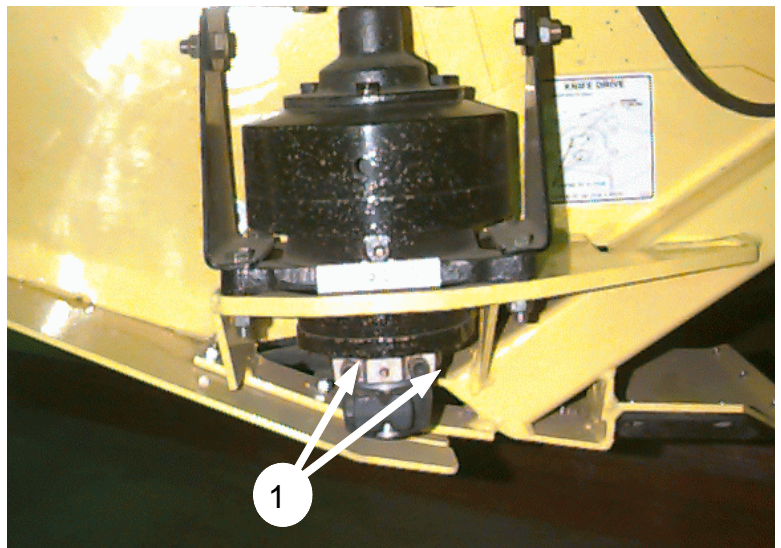

Figure 60.2
1. Remove the two socket head cap screws (1) on the knife head block (see Figure 60.2). Slide the knife out of the cutter bar.
2. Reverse the procedure when installing the knife. Apply a small amount of thread lock solution to cap screws (1) before installation. Torque to recommended specifications - 41 ft-lb (55 Nm)